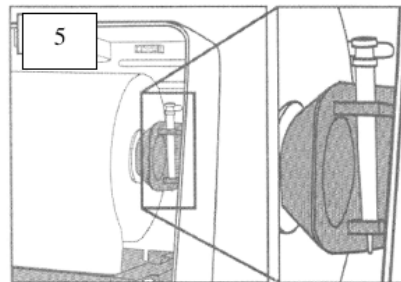
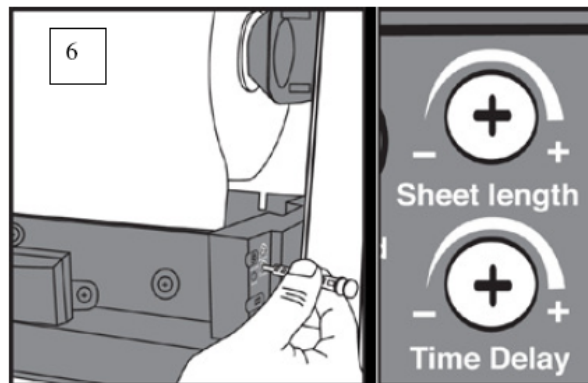

Figure 5
Figure 6
2. Using the supplied tool (See Figure 5), turn sheet length adjustment screw counterclockwise to decrease the towel size, or clockwise to increase the towel size. (See Figure 6)
3. Time delay can also be adjusted, but it is recommended that the factory setting be used. (*See Figure 6*)
(See figures 5 & 6.)